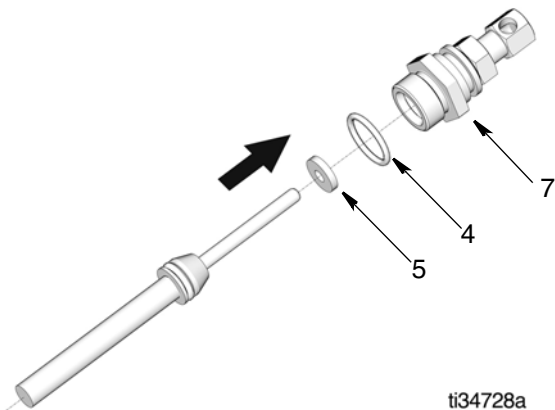

FIG. 13
5. Install packing (5) inside displacement piston (7).
6. Install o-ring (4) as shown in FIG. 13.
7. Install indicator pin (8) in displacement piston (7) (FIG. 13).